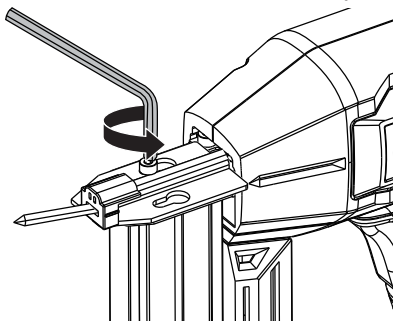
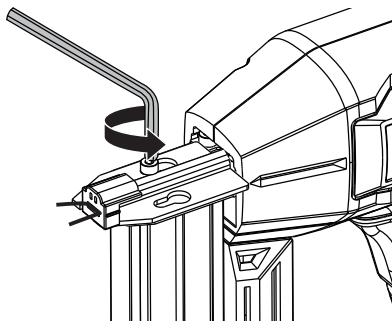

Fig. 9
Fig. 10
6. UNBLOCKING JAMMED FASTENERS (See Fig. 9 & 11)
- In the unlikely event that nails become jammed, follow these instructions to remove them. Use the hex key provided with the tool to unscrew the two screws on the tacker head. (See Fig.9 and Fig. 10).